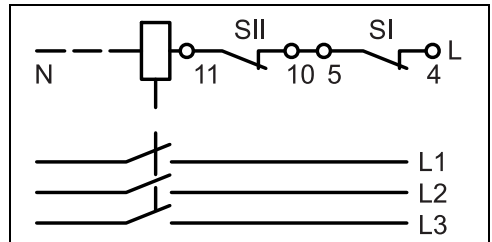

Fig. 38
- ▶ When using “SI” and “SII”, switch these to a separate backup circuit with emergency shut-off (e.g. separate contactor) (see Fig. 38).